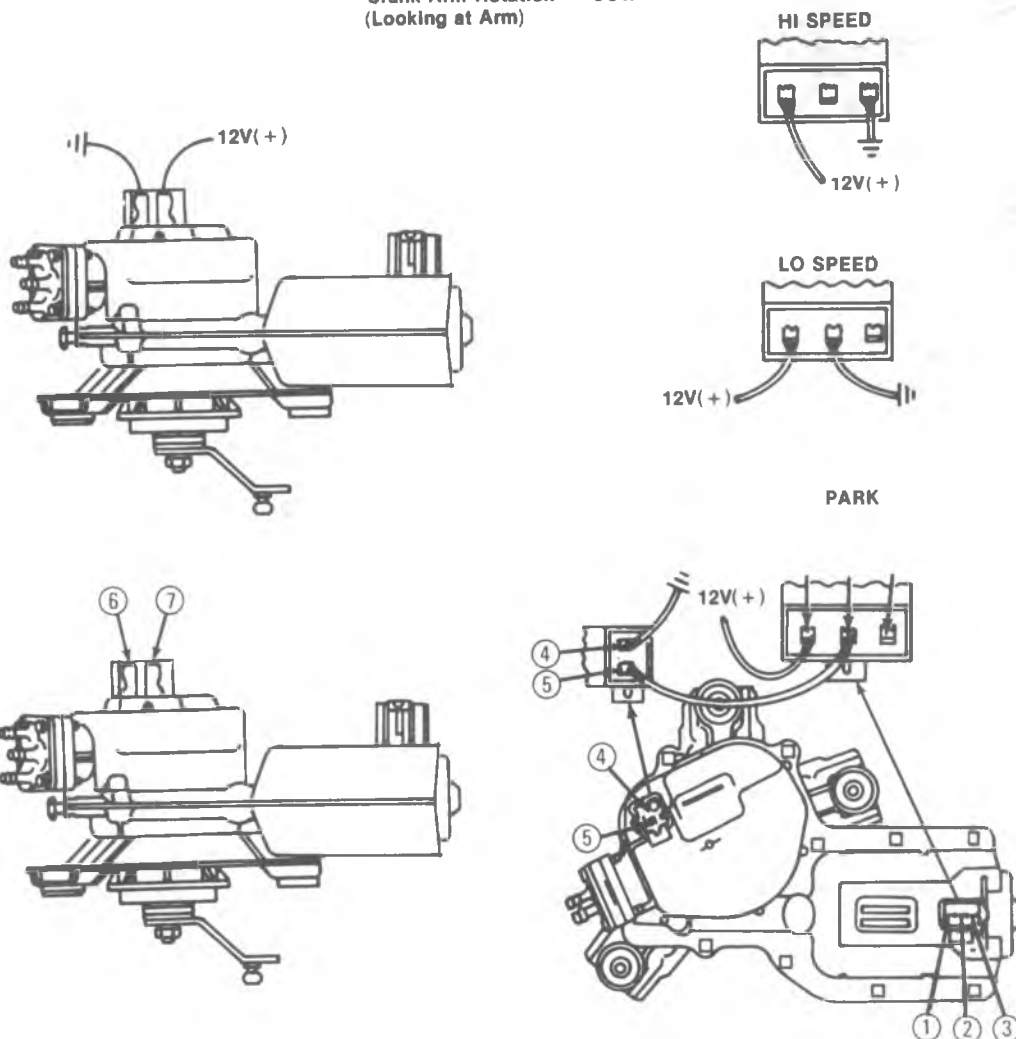

Fig. 8-30—Checking Motor Operation
This is part of the washer pump relay coil assembly. Refer to figure 8-30.
4. To re-assemble, reverse steps 1 thru 3 and check wiper operation, figure 8-30.